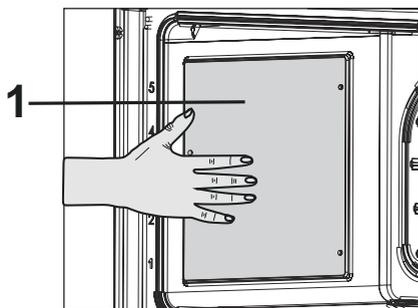

Fig. 32
*Hold the catalytic panels with your hand to prevent falling of the catalytic panels on the side walls while removing the wire rack (Fig. 32).*